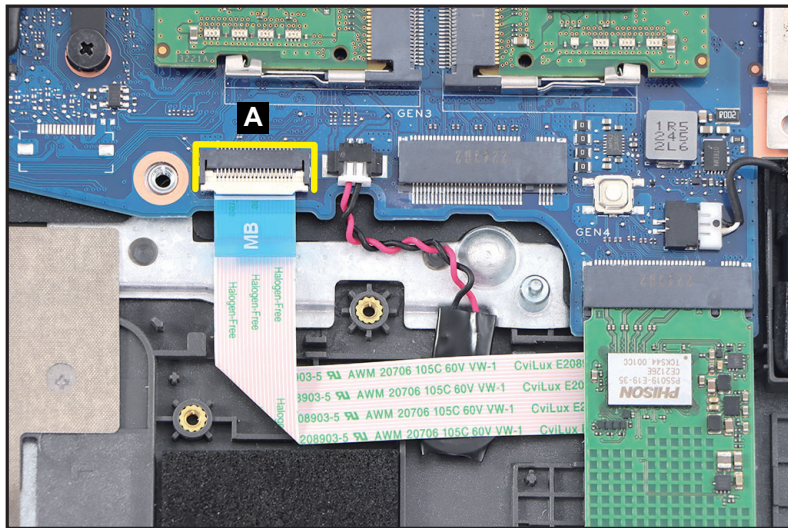

Figure 1-21. RTC Battery Removal
1. Disconnect the LED board FFC from the mainboard connector (A) (Figure 1-21).